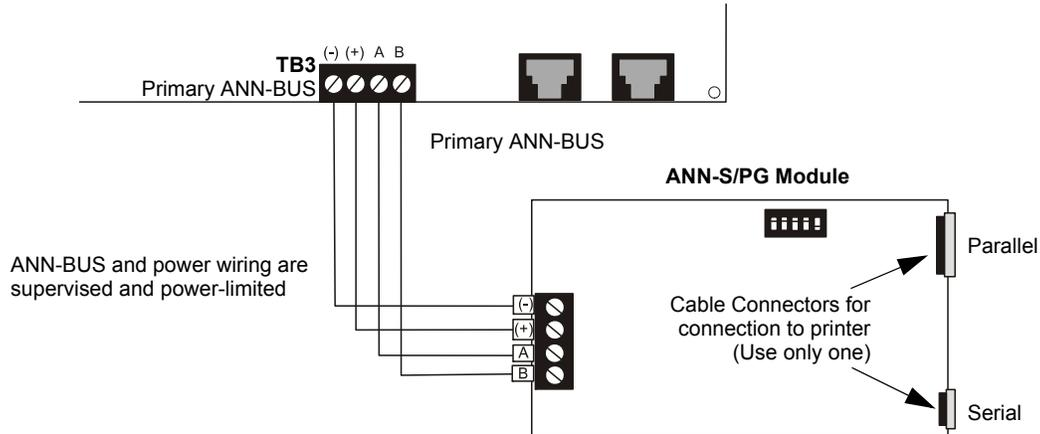

Figure 2.23 ANN-S/PG Connection to FACP
2. Connect the N-ANN-S/PG to the FACP as illustrated in Figure 2.23.
5. Connect a printer to the N-ANN-S/PG Parallel and/or Serial connectors (refer to Figure 2.23 on page 41).